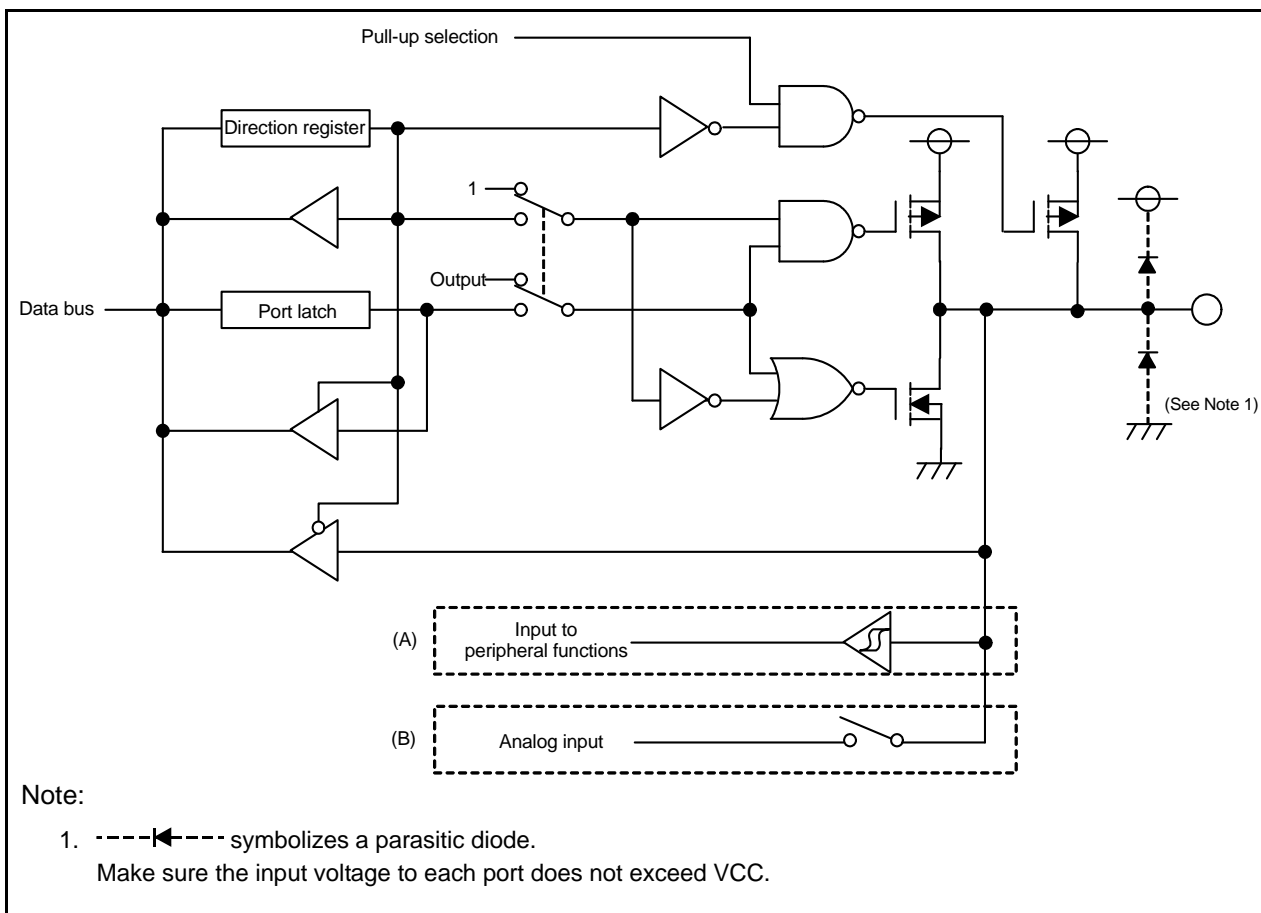

Figure 11.2 I/O Ports (Output)
Peripheral function input (A) in Figure 11.2	Analog input (B) in Figure 11.2